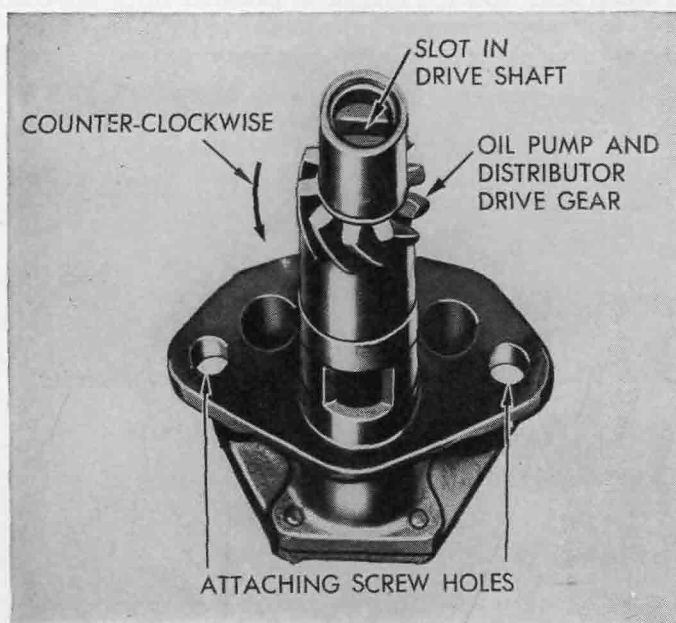

FIG. 12-8. Lining up slot in readiness for replacing oil pump on engine. (Plymouth Division of Chrysler Corporation)
- j. To replace the pump on the engine, first line up the slot in the drive shaft with the two attaching-screw holes in the pump flange. Then turn the drive gear one tooth in a counter-clockwise direction as viewed from the shaft end (Fig. 12-8). Next, slide the pump into position without further turning the drive gear. Fasten it with attaching screws.